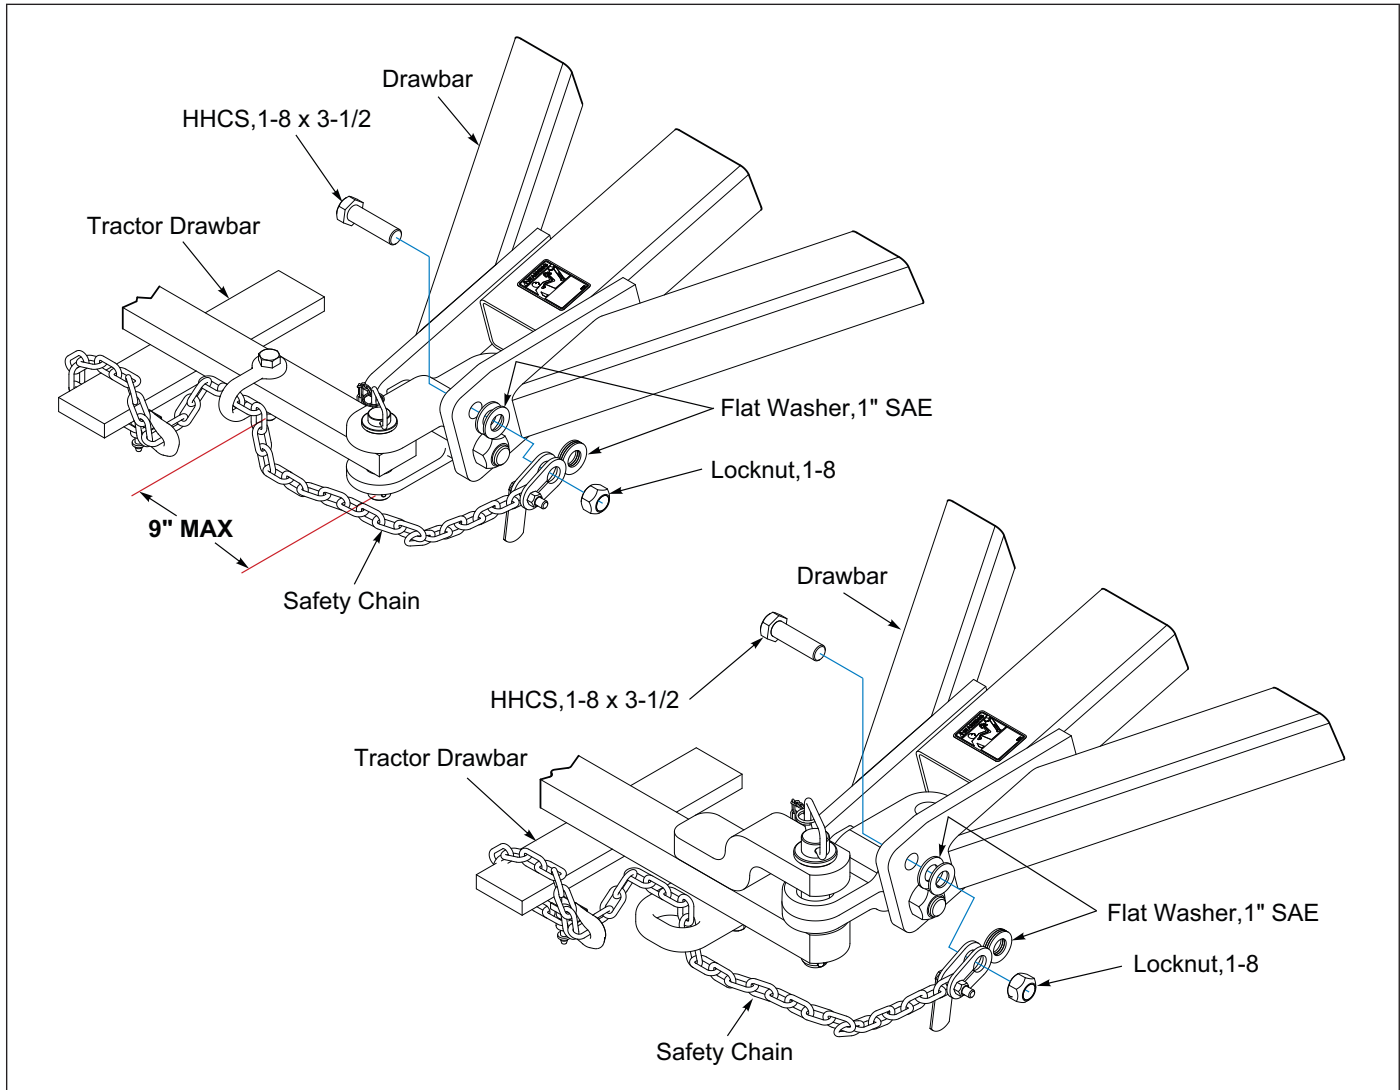

Figure 3-1: Safety Chain To Tractor
5. Attach Safety Chain to tractor allowing plenty of movement for turning both directions. The safety chain should latch securely to prevent it coming loose. **See Figure 3-1.**
6. A Safety Chain is provided with the implement to insure safe transport. **See Figure 3-1.**